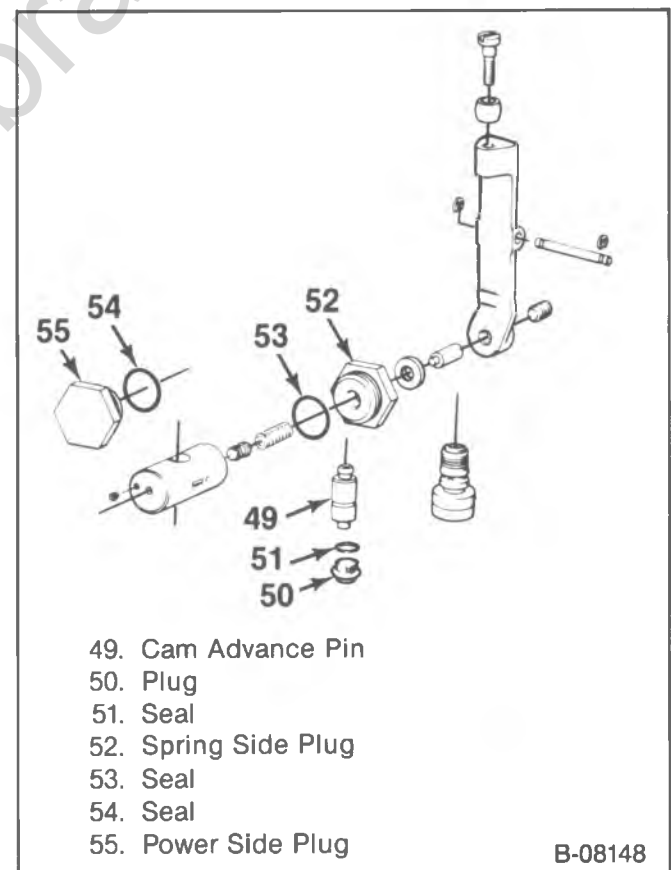

Figure 26—Advance Piston Group
↔ Remove or Disconnect (Figure 26)
→← Install or Connect (Figure 26)
Install or Connect (Figure 26)
↔ Install or Connect (Figure 26)
5. Cam advance pin hold plug (50) (figure 26).
7. Cam advance pin (49) (figure 26).
6. The advance pin (49) (figure 26).